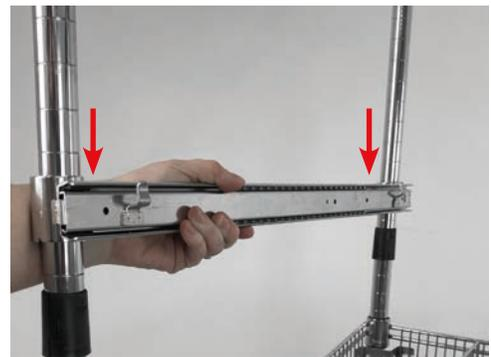

Fig. 16
To continue the process with ParWire® Glide Baskets, snap the split sleeves into the preferred location on the posts as before. ParWire® Glide Baskets come with a set of two (2) slide rails. Each slide rail has two (2) prongs to seat the shelf on. With the prongs facing inward and up, move the slide rail collars down over posts and split sleeves (Fig. 16). Repeat this process on the other side.